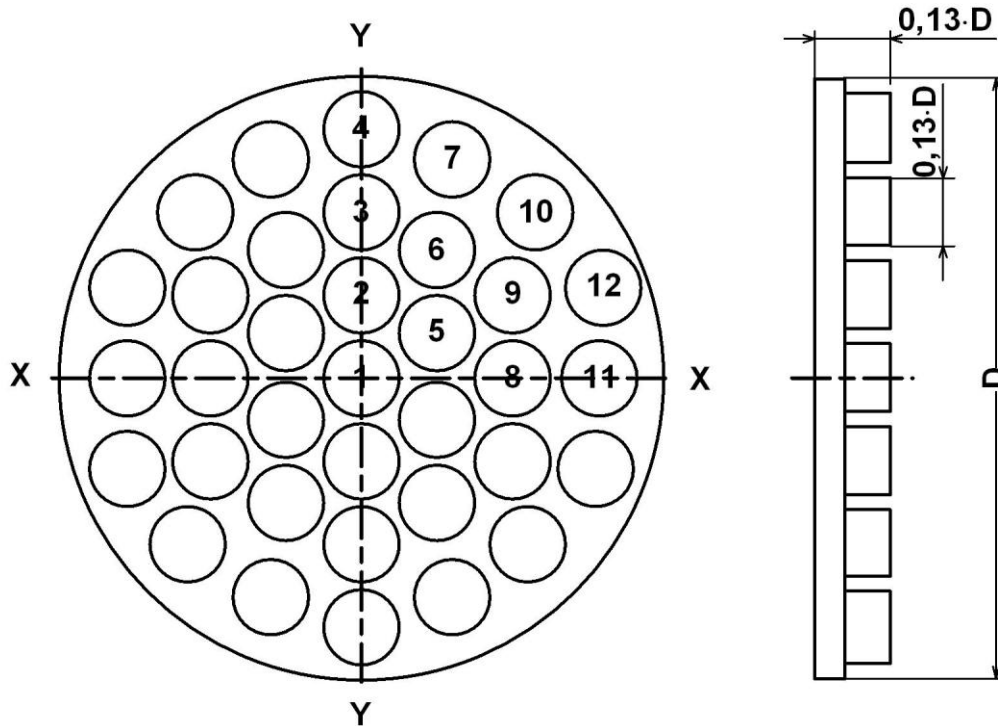

Fig.E.2. Design of type B flow straightening vane.
2. To lower weight and material quantity, a type B straightening vane (Fig. E.2) can be used; it is manufactured according to the following rules: